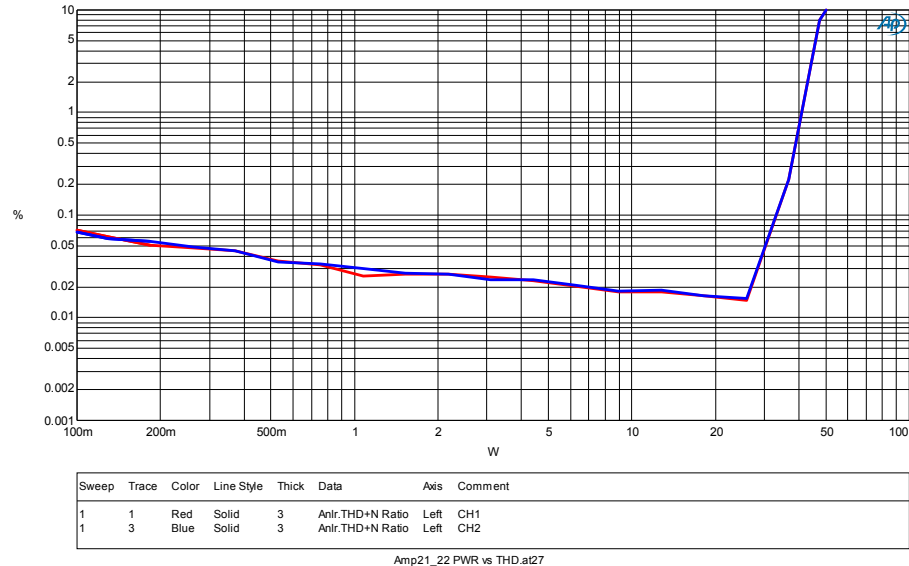
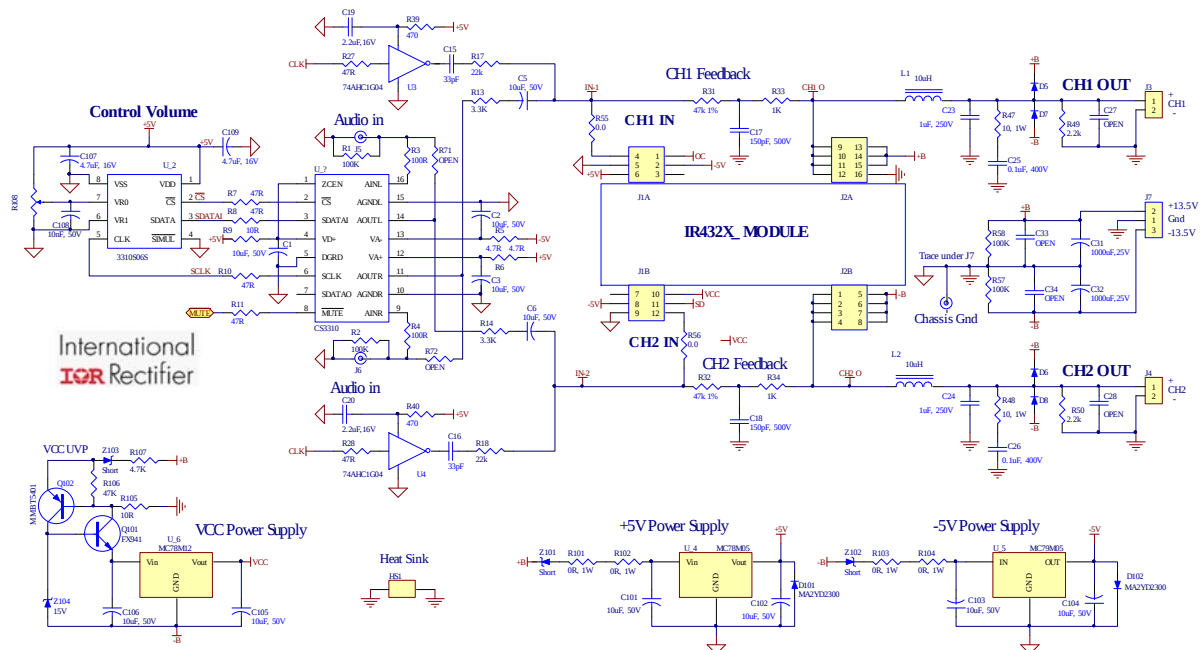

Figure 3
Figure12
15. For all subsequent tests as shown on the Audio Precision graphs below (Figure 3- Figure12), the measurements are taken across J3 and J4 with an AES-17 Filter. Observe that a 1 V_{RMS} input generates an output around THD+N=1% power level.